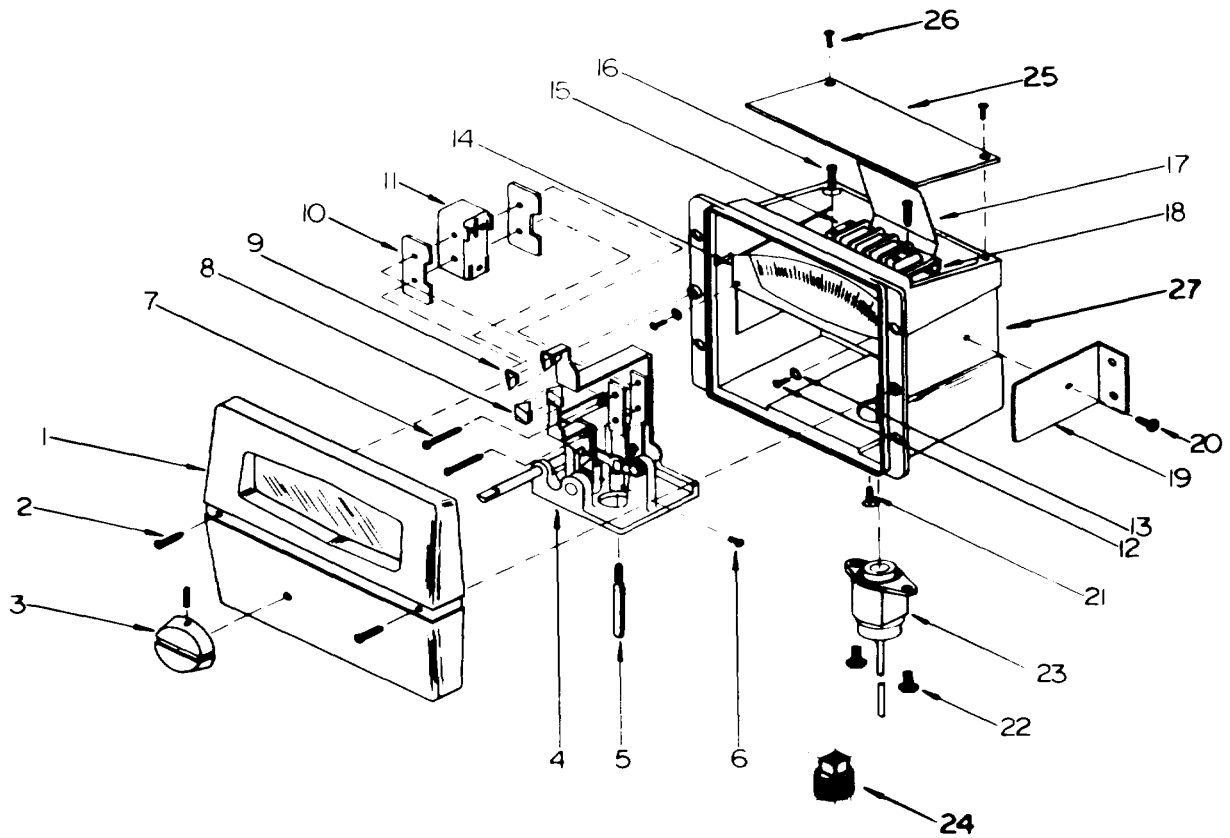

Figure 30. TEMPERATURE CONTROL.
NOTE: TO CALIBRATE TEMPERATURE CONTROL, REFERENCE FIG. 30 AND PROCEED AS FOLLOWS:
1. Remove two element flange screws - pull capillary element down and away from control, Fig. 30, Items 22 & 23.
2. Remove outlet box cover on top of control; disconnect all electrical connections, Fig. 30, Item 25.